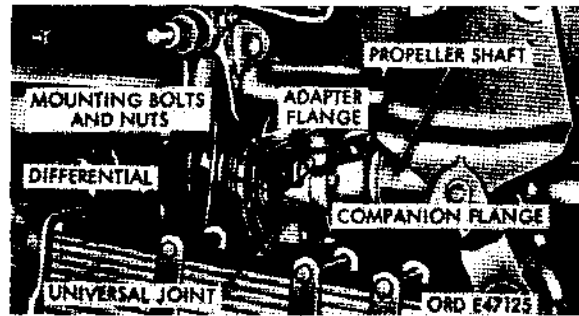

Figure 335. Disconnecting transfer-to-front axle propeller shaft
e. Disconnect Propeller Shaft (Fig. 335). Disconnect adapter flange on front end of transfer-to-front-axle propeller shaft from companion flange at rear of front-axle differential.
c. Connect Propeller Shaft (Fig. 335). Connect adapter flange on front end of transfer-to-front-axle propeller shaft to companion flange at rear of front axle differential.